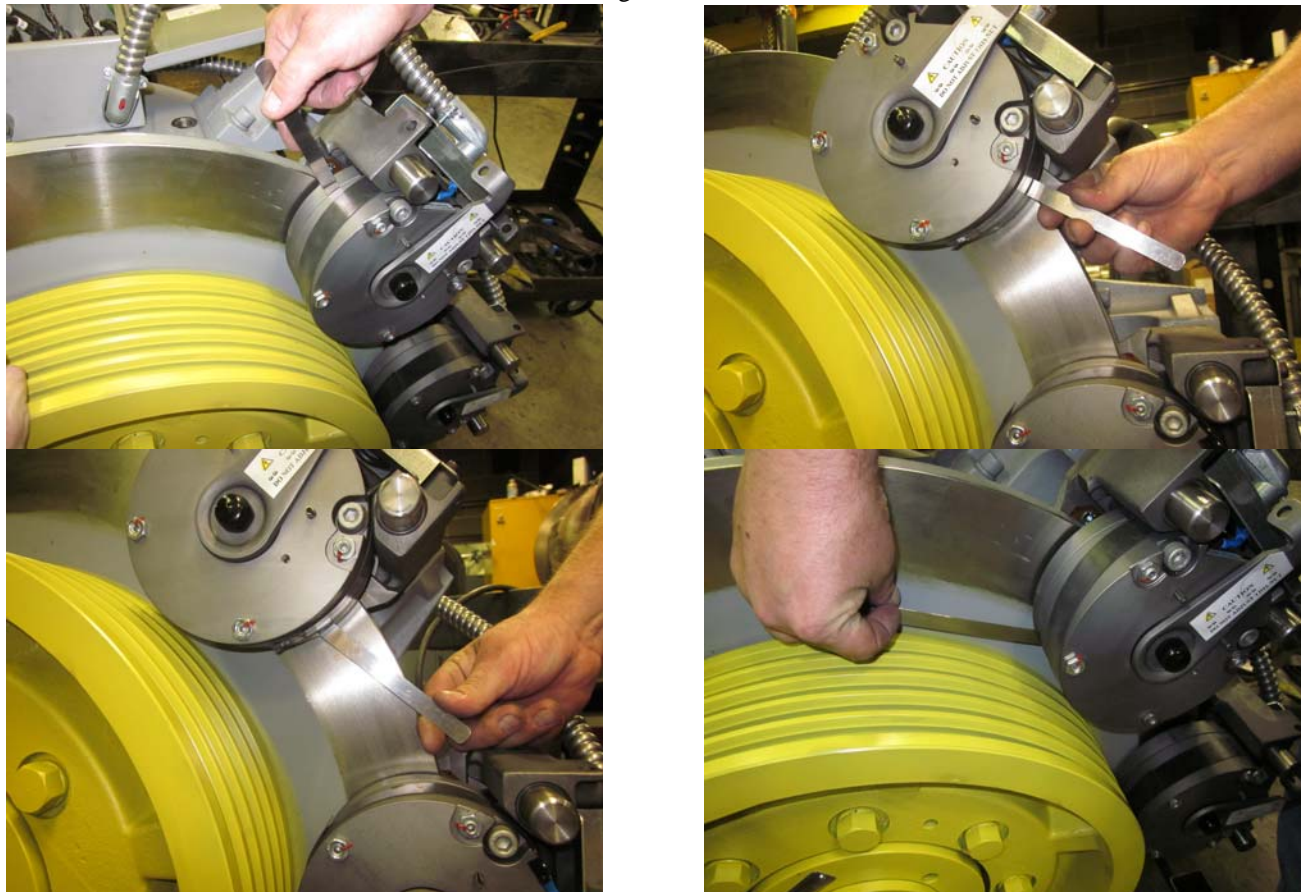

Figure 17: Check Brake Gap at 4 places around the brake to understand completely the brake position.
- Check Air Gap (between Coil Carrier Assembly “1” and Armature Disc “2”) at “B”, approx. 0.020 inch gap should be **equal** all the way around. (Figure 17)